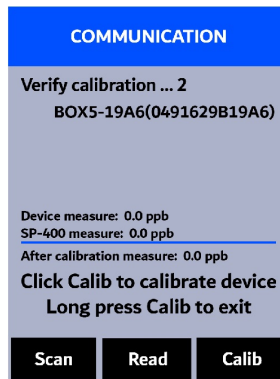

Figure 25.
13. The SP-400 will take the sensor PTSA measurement three times to verify the calibration (Figure 25).